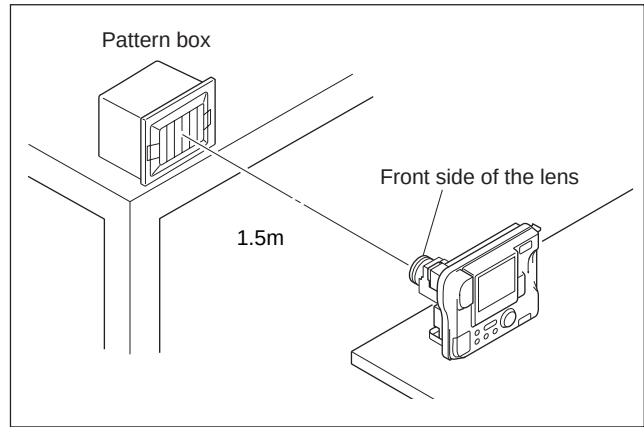

Fig. 5-1-2
- 1) Set the camera and pattern box as shown in Fig. 5-1-2.